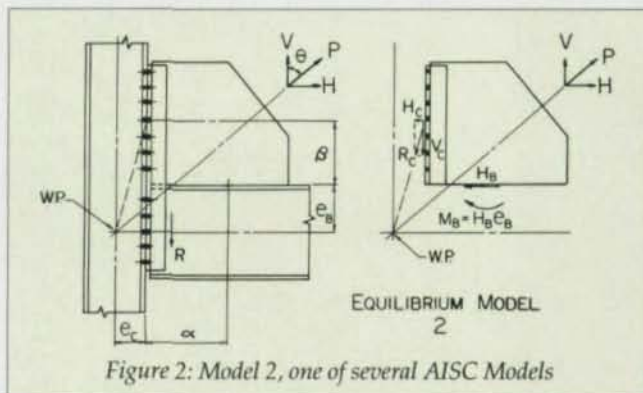

Figure 2: Model 2, one of several AISC Models
• **Model 2 (AISC Model).** This model is one of several adopted by AISC based on the research during the past decade. The force distributions for the gusset, beam, and column are shown in Figures 2 and 3, and